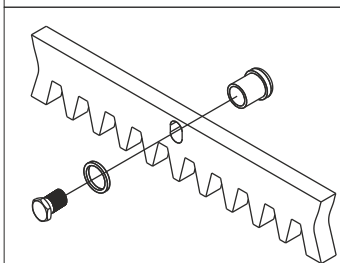

Fig. 8
5.2. Fix on each gear rack element the support pawls with the appropriate lock screws, making sure to put them in the upper part of the hole (Fig. 8);